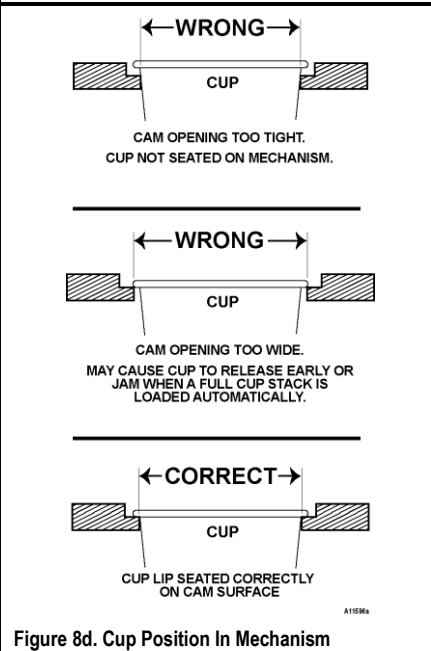

Figure 8d. Cup Position In Mechanism
- 3a. Adjust the cup mechanism back and forth so that the cup lip rests on top of the circular cams of the cup dispenser mechanism. See Figure 8d.